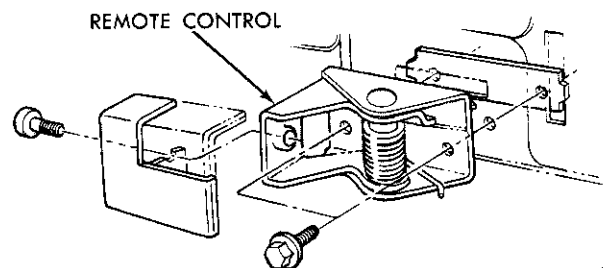

Fig. 23—Remote Control Handle
The remote control handle (Fig. 23) is attached to the control unit with a screw at the rear inner end.
- (1) Raise door glass.
- (2) Remove remote control base to door panel screws (Fig. 23).
- (3) Remove link from remote control lever.
- (4) Remove control through large opening in door.